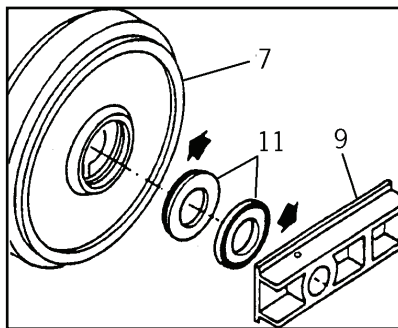

Fig. 3-51
2. Place seals (11) into bores of idler wheel (7) and sliding block (9). Fig.3-51. Be sure the lip of the seal faces the direction shown in fig. 3-51.